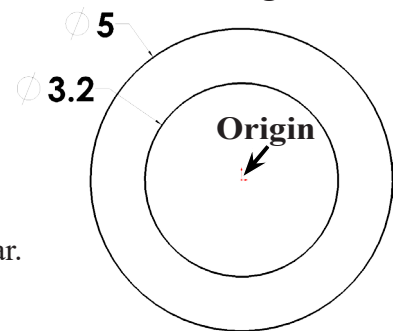

Fig. 2
Step 3. Click **Circle** (S) on the Sketch toolbar.
Step 4. Sketch two circles starting at the Origin , **Fig. 2**.
Step 5. Click **Smart Dimension** (S) on the Sketch toolbar.
Step 6. Dimension circle **diameters 3.2 and 5**, **Fig. 2**.